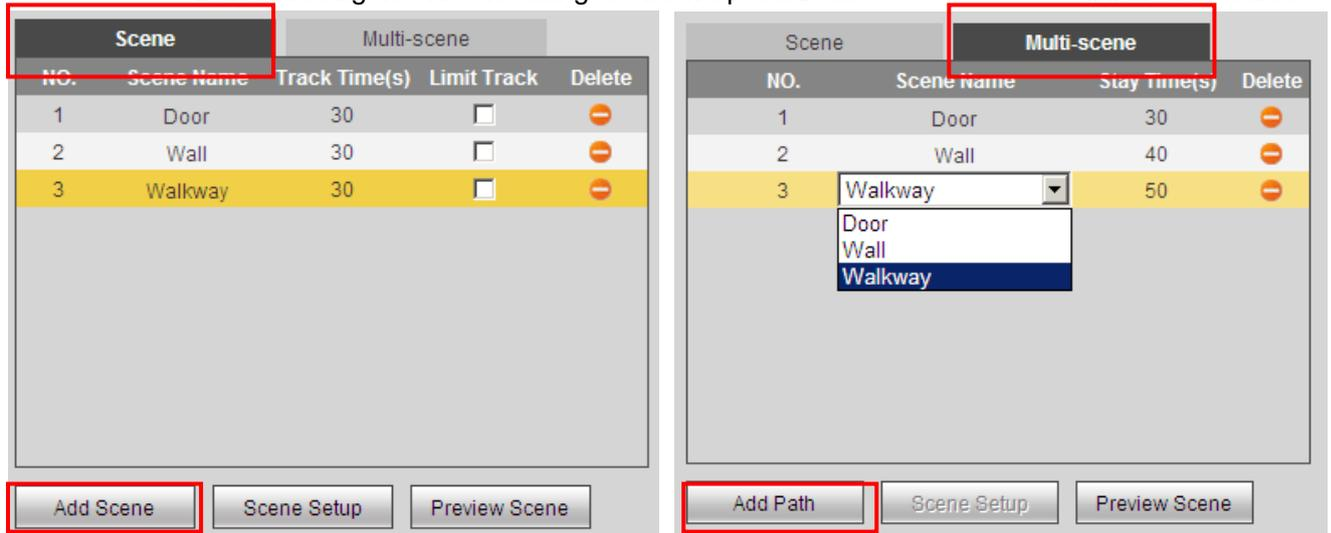

Figure 3-7
- Set scene. In the following figure, you can add the path for the multiple-scene track. The stay time is 30s, 40s, and 50s respectively. See Figure 3-7. Click the save button to complete the setup. You can see system prompts a dialogue box "Save succeeded" to remind you.